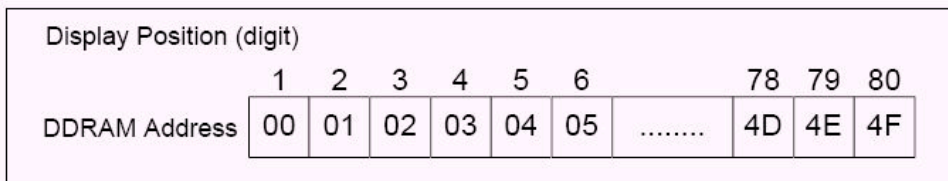

Figure 8. 1-Line Display
- **1-line display (N = 0) (Figure 8)**
When there are fewer than 80 display characters, the display begins at the head position. For example, if using only the ST7032, 16 characters are displayed. See Figure 8.